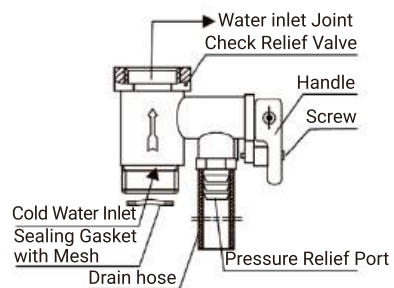

Figure 3
- ① The safety valve (factory original identification 0.8MPa) in the accessories shall be installed on the water inlet joint (as shown in Fig 3), and the raw material belt shall be wound to ensure sealing.
The arrow direction shall be consistent with the water inlet flow direction of the electric water heater (as shown in Fig 3). The net sealing gasket shall be installed at the cold water inlet of the safety valve, and the drainage hose at the pressure relief outlet of the safety valve shall be installed to maintain a continuous downward inclination. It shall be installed in a frost free environment, and then extended to the ground leakage, kept connected with the atmosphere, and properly fixed to prevent scalding by discharging hot water or steam. The safety valve can prevent the tank pressure from exceeding the rated pressure by 0.1MPa. If the pressure in the tank is too high, the safety valve will automatically open and drain water from its pressure relief port to release the pressure.
- ③ Where water is used, it shall be able to drain smoothly.
- ④ Under normal use, the handle of the safety valve (Fig. 3) should be opened regularly to remove calcium carbonate deposition. The method is: pull the discharge handle upward to the horizontal position (if the handle is equipped with screws, remove the screws with a screwdriver before doing this action), and confirm whether the safety valve is blocked (whether there is water discharge). If it is blocked, please contact the maintenance department.